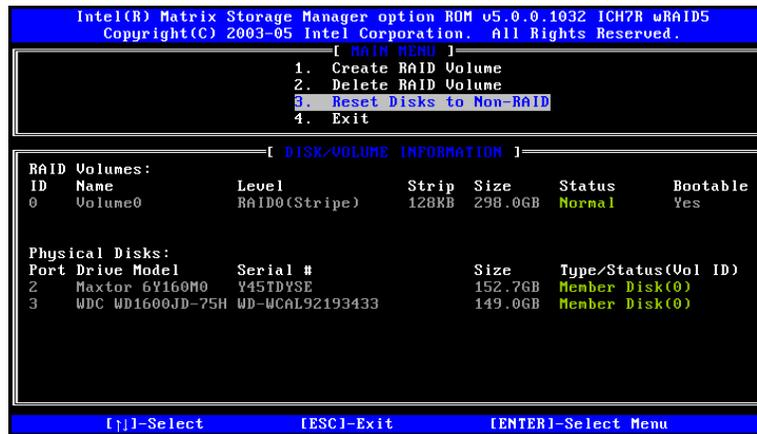

Figure F-12: Reset Disk to Non-RAID Menu
Step 1: Select “Reset Disk to Non-RAID.” Use the arrow keys to highlight **Reset Disk to Non-RAID** and press **ENTER**. See **Figure F-12**.